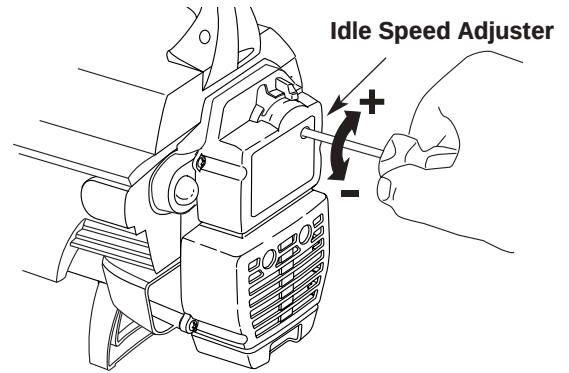

Fig. 27
The idle speed adjuster of the engine is adjustable though the Air filter/muffler cover (Fig 27).
3. Move the throttle control and let the engine idle. If the engine stops, insert a small phillips or flat blade screwdriver into the hole in the air filter/muffler cover (Fig. 27). Turn the idle speed adjuster in, clockwise, 1/8 of a turn at a time (as needed) until the engine idles smoothly.